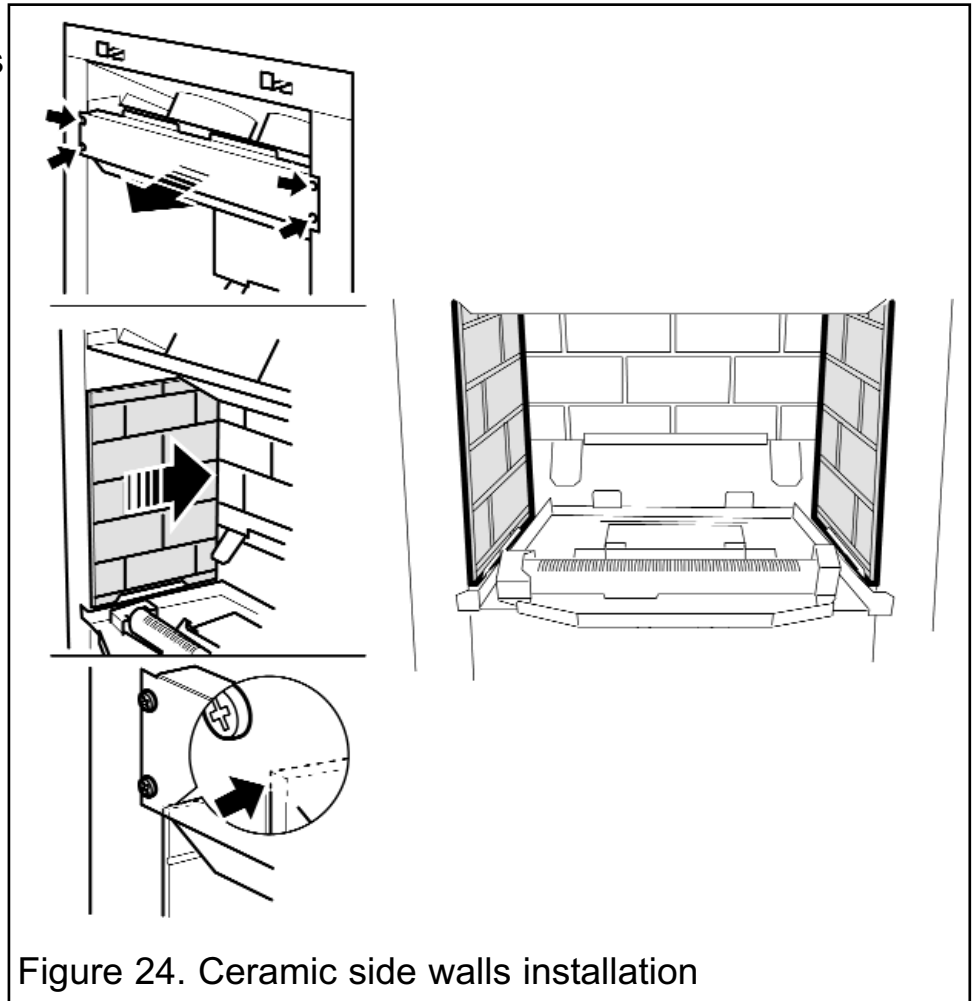

Figure 24. Ceramic side walls installation
2. Remove four screws from the spillage plate sides (See figure 24).
4. Fit the ceramic side walls against the side faces of the burner compartment. The bottom edges of the walls should rest in the ledges at the sides of the firebox. Slide them in from the front and ensure that they touch the rear wall. The friction between the side walls and the rear wall should hold the side walls in position (See figure 24).